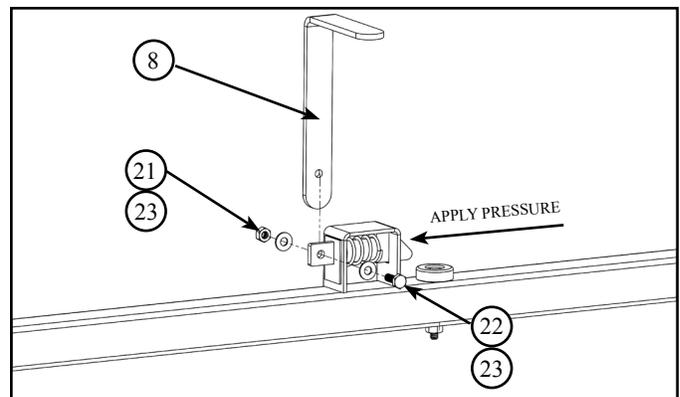

Figure 3.10 - Bed Latch Hole Alignment
8. Apply pressure to the latch bar to expose the latch hole. Refer to Figure 3.10
9. Align latch handle (8) with latch hole and insert bolt (22) and washer (23). Refer to Figure 3.10